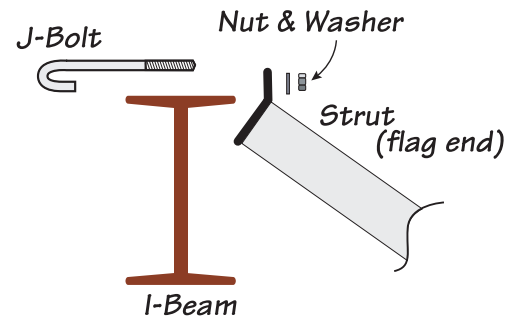

Figure 2
8. Attach the flag end of the larger tube to the opposite I-beam using the "J" bolt over the top of the I-beam with the nut & washer provided. (Figure 2)